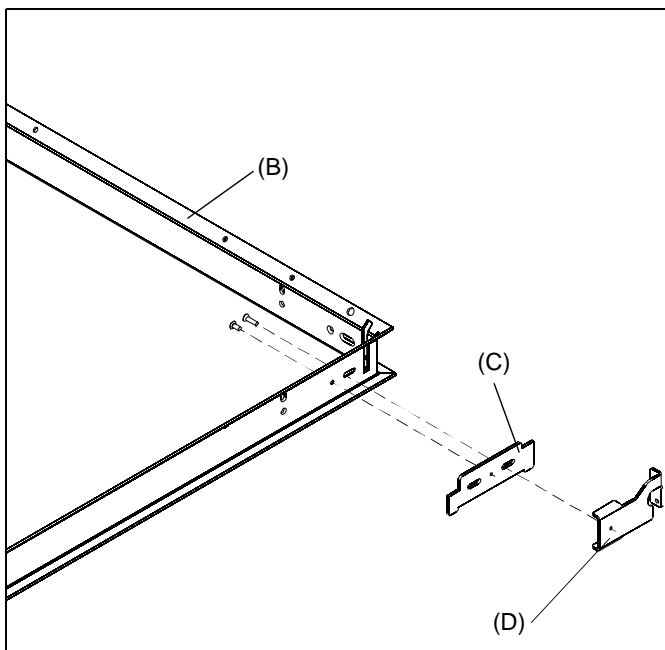

Figure 1
**NOTE:** Addition of the vertical bracket (C) is optional. The vertical bracket is used to allow vertical adjustment into the ceiling if a ceiling tile is attached to the bottom of the SL220.
1. OPTIONAL: Attach vertical brackets (C) to both sides (in each corner) of the SL220 frame (B) using a 06-32 x 5/16" Phillips flat head screw (F). (See Figure 1)
2. Attach horizontal bracket (D) over the vertical bracket (C) at each corner of the SL220 frame using a 06-32 x 1/2" Phillips flat head screw (E). (See Figure 1)